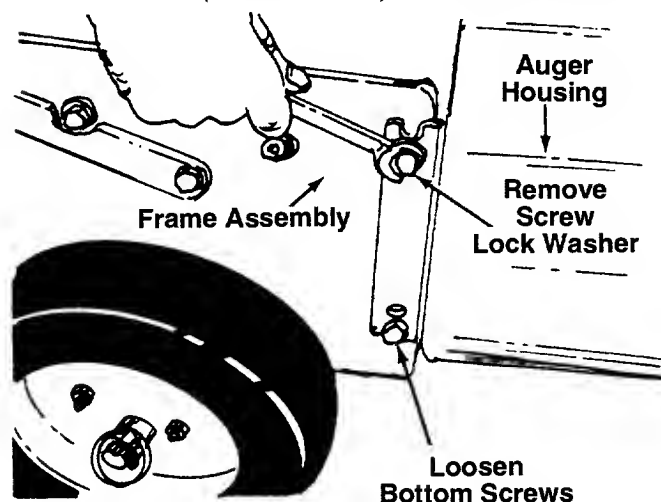

FIGURE 32.
5. Remove the top screws and lock washers which attach the auger housing assembly to the frame assembly. A 9/16" wrench is required. See figure 32. Loosen (do not remove) the bottom screws.